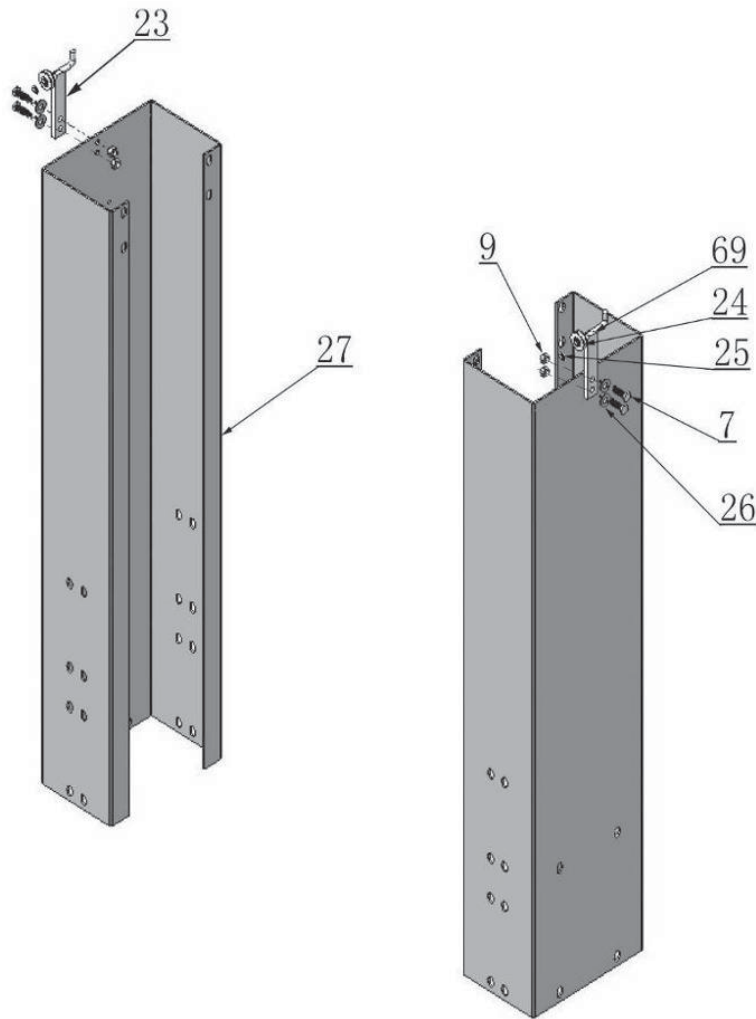

Fig. 12
D. Install The Hydraulic Hose And Lock Release Cable Brackets On The Extension Columns (See Fig. 12)